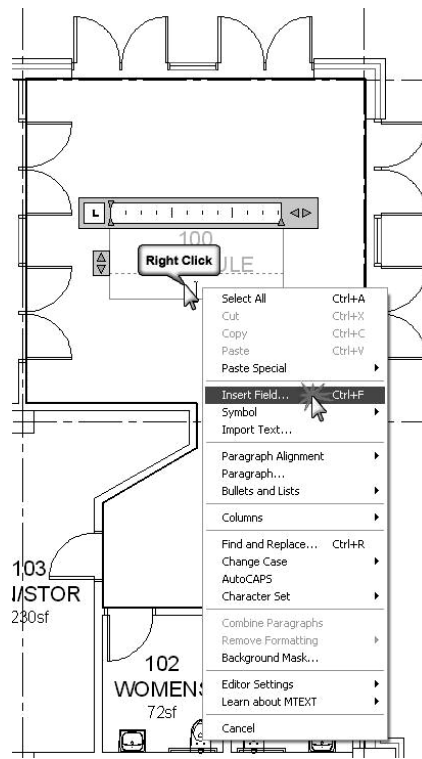

Figure 4-4.4 Adding a field
12. Select **Insert field...** (Figure 4-4.4).